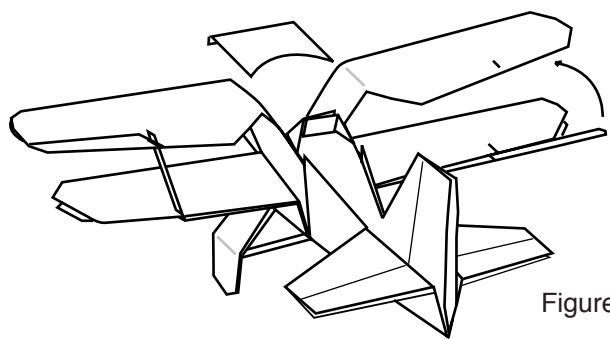

Figure 1.
26. Partially close (fold) the top and bottom of the left lower wing together. Now bend the wing strut upward and slip it through cut #25L of the lower wing so to serve as a main support member between the upper and lower wing. Do the same on the right lower wing. (See Figure 1.)
47. With the point of a razor-sharp knife, pierce a cut #47 (in red) about 1/4" along the inboard border of the aileron in the upper left wing, being careful not to cut through the wing's trailing edge. Thread the tip of the wing strut from the lower wing through this cut and pull until the lower and upper wings are parallel. (Figure 1) However, in the final alignment, the upper wing remains flat (with no dihedral) while the lower wing is to be adjusted to have a modest 2° upward slope (dihedral) from the inboard wing joint outward toward the wing tip. Do the same with the right wing.
48. Now use the windshield pieces to pull and hold the left and right sides of the fuselage together to within 1/2". Make two A48 creases, then overlap and cement the fronts of the left and right windshield pieces together as shown in Fig. 1.